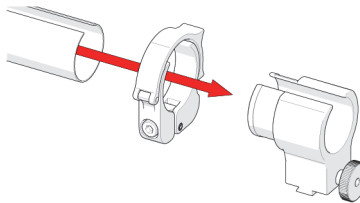

Figure 2-48 Join tube and clamp
2. Slide the clamp around the tube, and then slide the tube around the outside of the cable management dovetail mount (see Figure 2-48 on page 69). Align the zipper opening and the cable management dovetail mount opening.